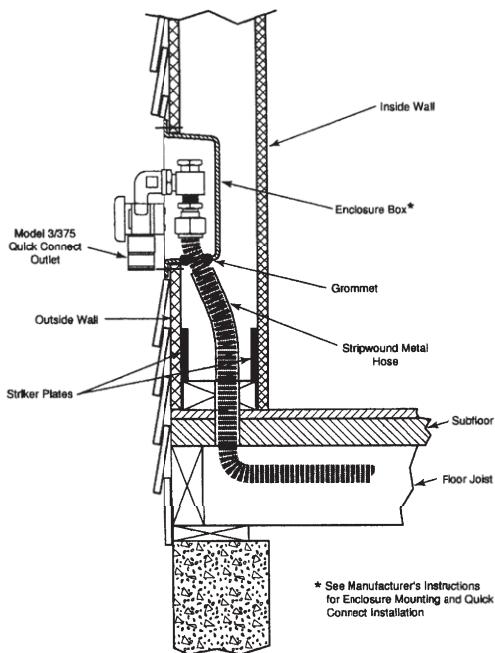

Figure: 4-37
1. Movable grills shall be connected using an approved outdoor appliance connector which shall be attached to the flexible piping system at either a termination mount fitting, a transition to a steel nipple, or a quick connect device such as the M. B. Sturgis Model 3/375 shown in Figure: 4-37. The quick-connect outlet shall be installed in accordance with manufacturer's instructions.